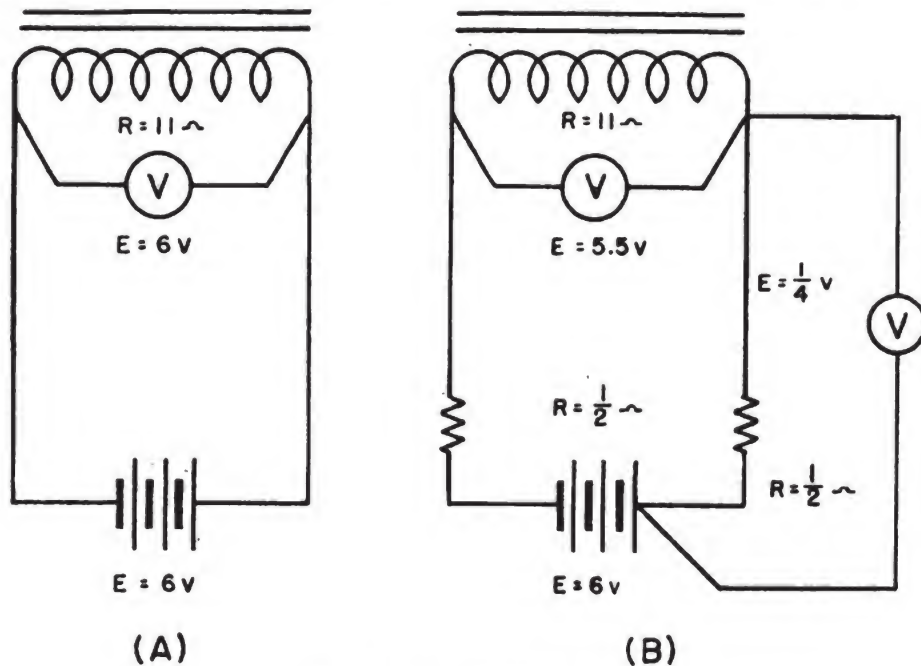

Figure 47.—Voltage drop.
If you assume that a simple circuit has no resistance in the connecting wires, you will have a diagram such as you see in (A) of figure 47.
But if you make the actual allowance for the resistance of the connecting wires, you will have a diagram such as you see in (B) of figure 47. Here, the two resistors represent the resistance of the connecting wires. What you actually have in (B) is a series circuit.
So, with the voltage and resistance values indicated in (*B*) of figure 47, an application of Ohm's Law will show that $\frac{1}{4}$ volt exists across each connecting wire. A low reading voltmeter connected at the proper points will show the same result. You have a voltage drop of $\frac{1}{4}$ volt.